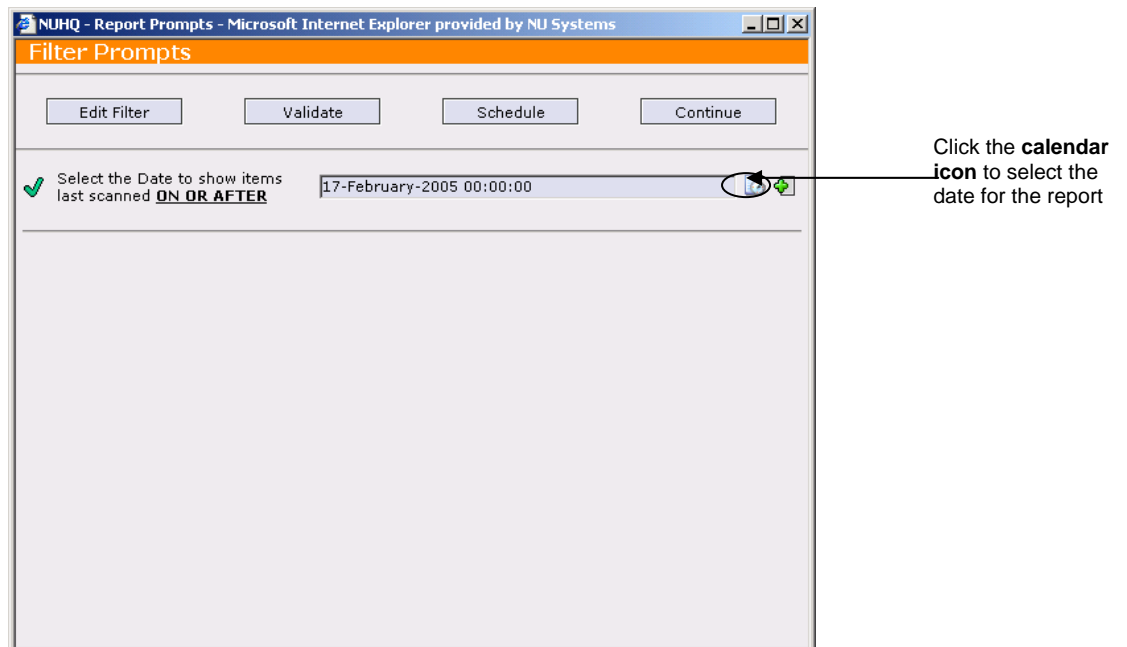

Figure 24 Select the Date for the report
- Click **Continue**, refer to Figure 24